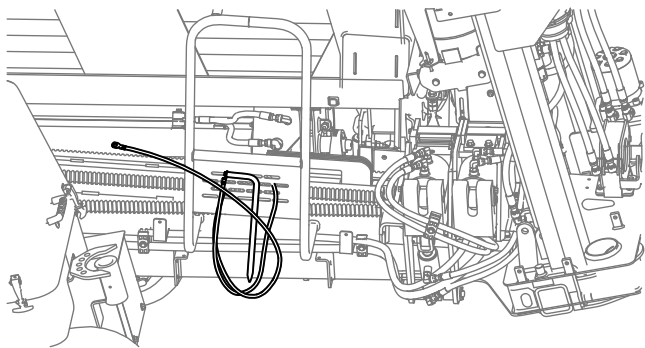

Figure 18
8. Store the grounding stake in the holder on the operator platform as shown in Figure 18.